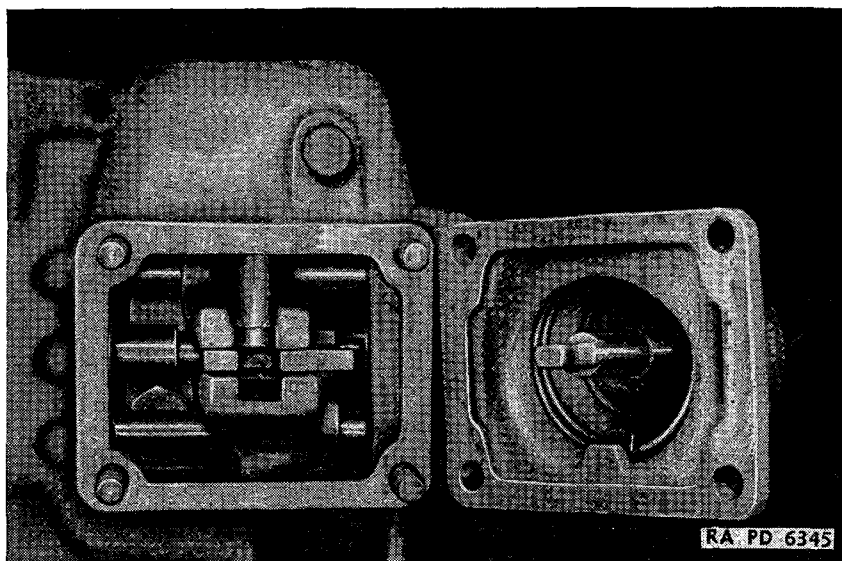

FIGURE 86.—Transmission shifter mechanism, top view.
(1) Remove shifter housing cover from transmission. Proceed as outlined in step in paragraph 34*h*.
(2) Remove transmission shift lever support spring from cover—pliers. Gripping wire at bottom end, twist to release spring (B184278) from holding lug in cover (C85622), and remove spring (fig. 86).
(3) Remove transmission main shift lever—pliers. Remove shift lever (D48161) by sliding through cover, and then remove two steady pins (A214803) from cover. Slide rubber grommet (A214806) off lever (fig. 86).